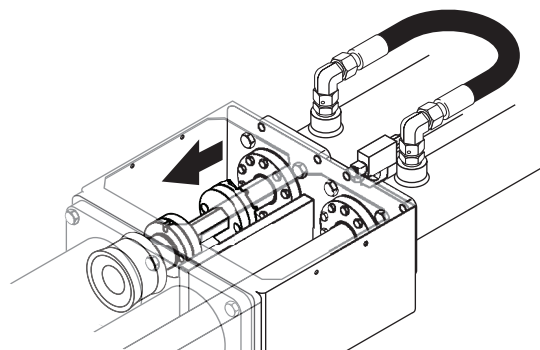

Figure 31
7. Restart the engine, and clear all E-stop requests. Press the concrete pump forward or reverse button and ram change button simultaneously. Slowly move the cylinder down to where its flange butts up to the spacer coupling; be careful not to go too far (Figure 31).